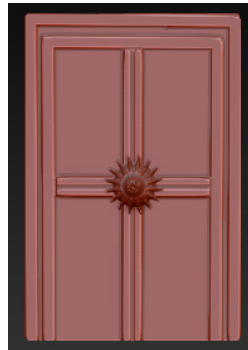

Figure 3-105 Knob created for the door in the flyout
5. Press and hold the left mouse button and drag the cursor in the middle of the *door* to create a knob, as shown in Figure 3-105.